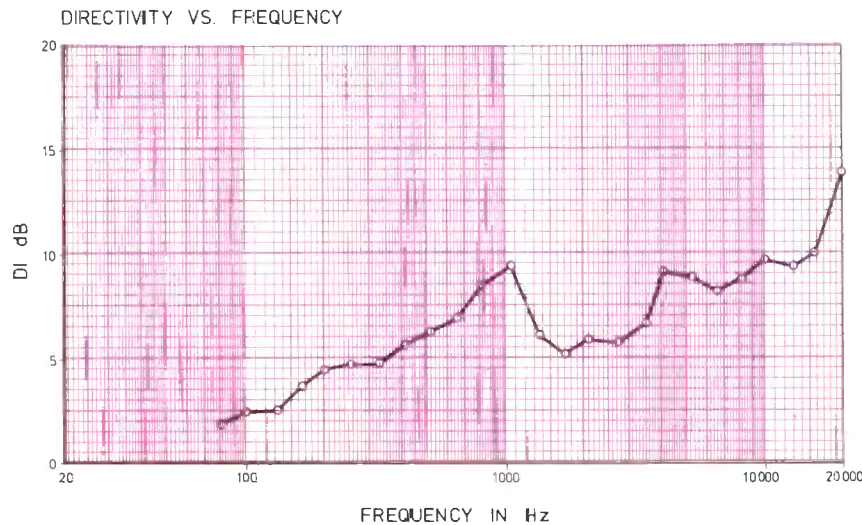

Figure 3. The directivity index (DI) of a test loudspeaker vs. frequency.
The term *power response* is used to describe the total power output of the loudspeaker with respect to frequency. Obviously, a loudspeaker that exhibits both flat on-axis frequency response and smooth angular control over the operating frequency range will, almost by definition, be putting out nearly flat power over the operating bandwidth. The measurement that defines this condition is the *directivity index* (DI) of the loudspeaker. The smoother the DI over the operating frequency range of the loudspeaker, the more likely it is that the on-axis and power responses will track each other. Figure 3 shows the DI for a 3-way bookshelf monitor. Note that from about 400Hz to 16kHz, the DI is contained within a window